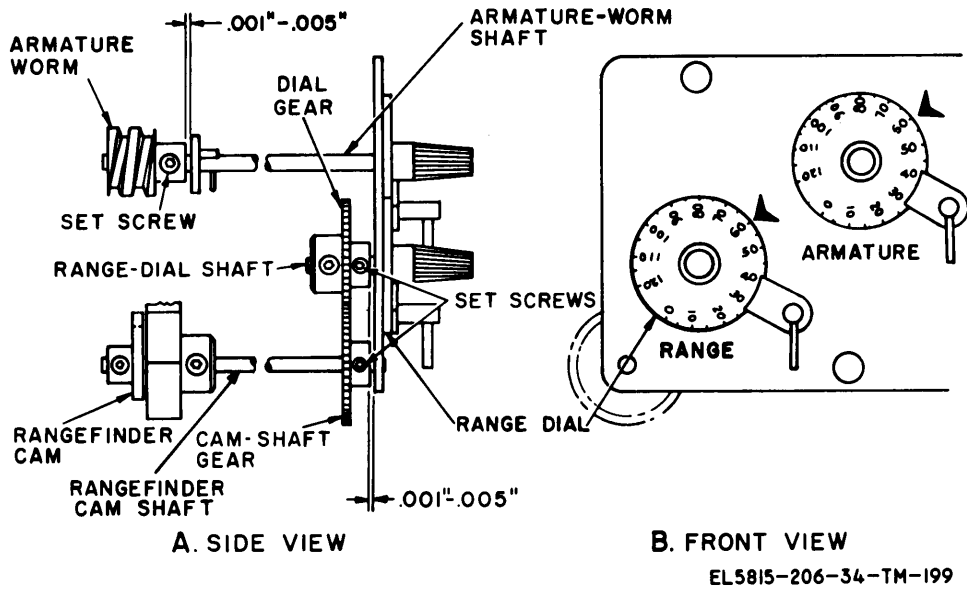
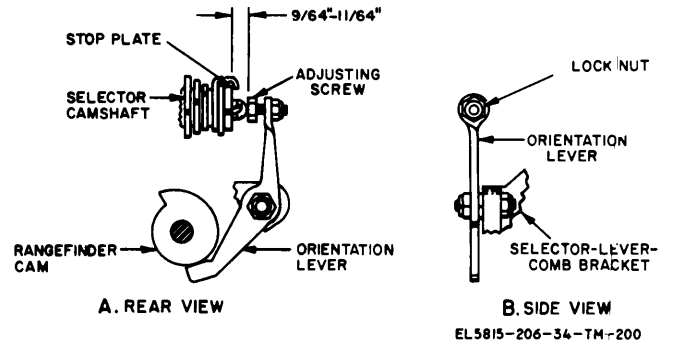

Figure 3-127. Rangefinder shaft adjustment.
Figure 3-128. Orientation lever adjustment requirements (TT-4B/TG, TT-4C/TG, TT-335/TG, TT-537/G, TT-698A/TG, and TT-698B/TG).
(1) There should be a 0.001- to 0.005-inch end play in the range-dial shaft, rangefinder cam shaft, and the armature-worm shaft (A, fig. 3-127).
(2) The RANGE dial should be set at 60 (B, fig. 3-127) when the high part of the rangefinder cam is against the lower arm of the orientation lever (A, fig. 3-128).
(1) Loosen the setscrews in the gears; position the gears to obtain the end play requirement; and tighten the setscrews.
(2) Loosen the setscrews in the armature worm; position the worm to meet the requirement; and tighten the setscrews.
(3) Position the RANGE dial at 60. Loosen the setscrews in the rangefinder cam; position the cam to meet the requirement; and tighten the setscrews.
*a. Requirement.* There should be a 9/64- to 11/64-inch clearance between the stop plate and the adjusting screw in the orientation lever when the lever is held against the midpoint of the rangefinder cam (A, fig. 3-128).
*b. Adjustment.* Loosen the locknut (B, fig. 3-128); hold the orientation lever against the rangefinder cam; turn the adjusting screw in or out to meet the requirement; and tighten the locknut.